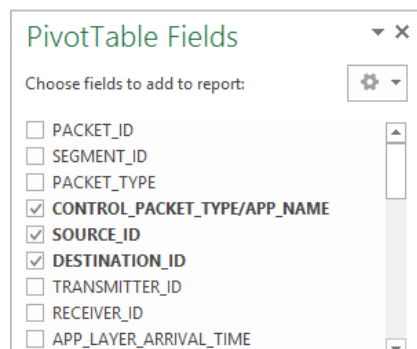

Figure 8-42: Select the check box of SOURCE_ID, DESTINATION_ID and CONTROL_PACKET_TYPE/APP_NAME in PivotTable Fields
- If you want to analyze packets sent from all sources to all destinations, then check SOURCE_ID, DESTINATION_ID and CONTROL_PACKET_TYPE/APP_NAME as shown below Figure 8-42.